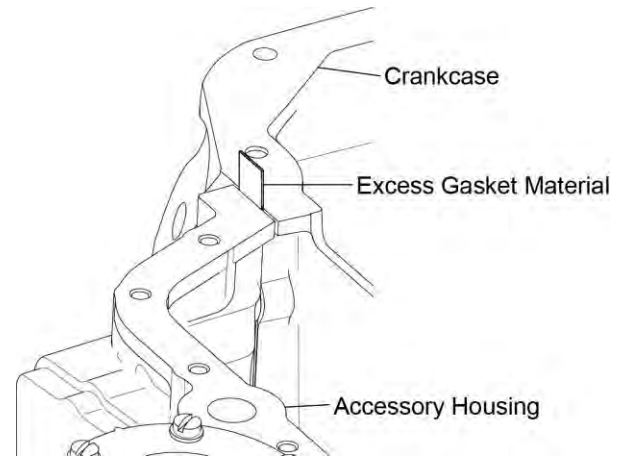

Figure 14
- C. Remove (cut away) any excess accessory housing gasket material that extends to the oil sump mounting surface. Excess gasket material must not extend between the accessory housing and crankcase. The gasket must be flush with the oil sump flange (Figure 14).